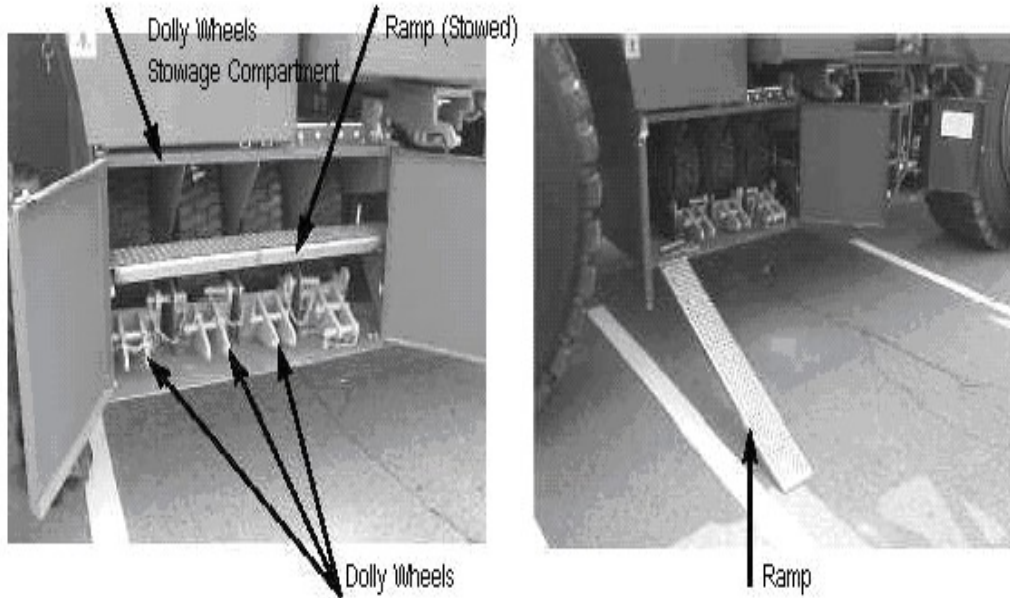

Figure 3-192
- h. Open dolly wheels storage compartment and remove ramp from stowage and then position against storage compartment. When installed, front and rear dolly wheels are turned toward each other (see Figure 3-192).